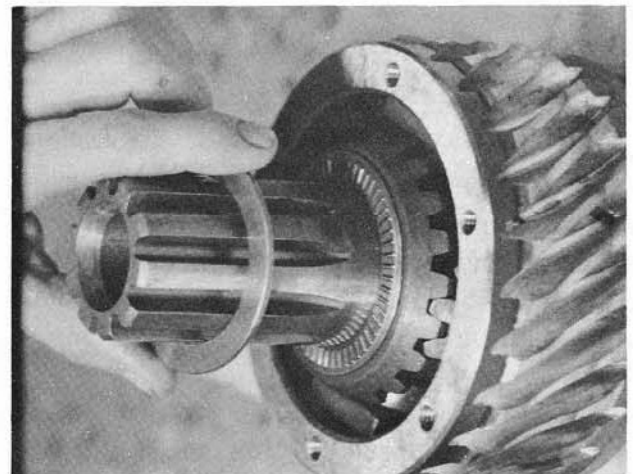

Figure 30
8. Place the Needle Thrust Bearing and Thrust Race on the Gear Hub, as in Figure 30.